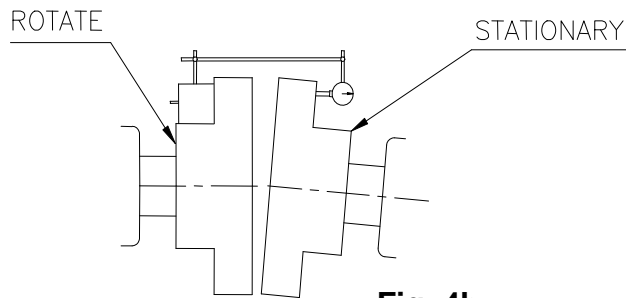

Fig. 4b
- **Using dial gauge (fig 4b) :** Fix the dial gauge on hub OD of one of the halves & set plunger on the face of the another half as shown. Rotate the coupling slowly to one complete revolution by taking dial readings at 4 intervals 90° apart. The Total Indicated Readings (TIR) will be the angular misalignment (Refer Table 'C1/C3').